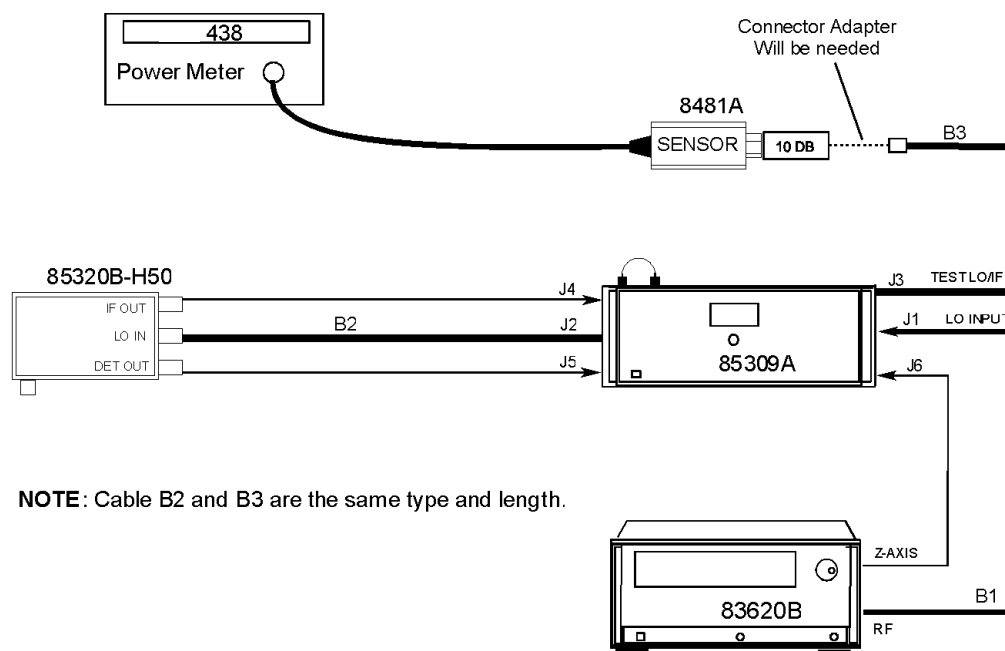

Figure A-1 Equipment Configuration
1. Configure your equipment as shown in Figure A-1 below.